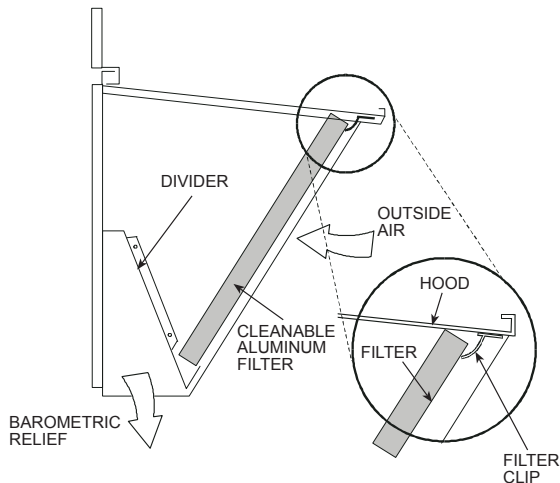

Fig. 15 — Economizer Filter Installation
5. Open the filter clips which are located underneath the hood top. Insert the aluminum filter into the bottom filter rack (hood divider). Push the filter into position past the open filter clips. Close the filter clips to lock the filter into place. See Fig. 15.